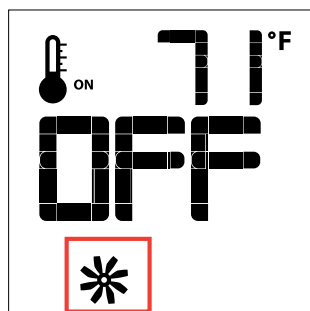
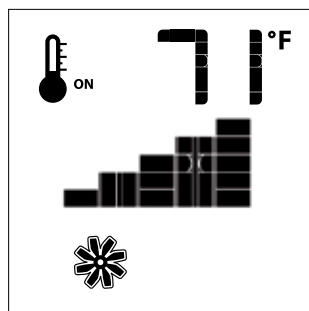

Figure 13
Figure 14
If the appliance is equipped with a hot air circulating fan, the speed of the fan can be controlled by the Proflame system. The fan speed can be adjusted through six (6) speeds. To activate this function use the Mode Key (fig. 1) to index to the fan control icon (Fig. 13). Use the Up/Down Arrow Keys (fig. 1) to turn on, off or adjust the fan speed (fig. 14). A single "beep" will confirm reception of the command.